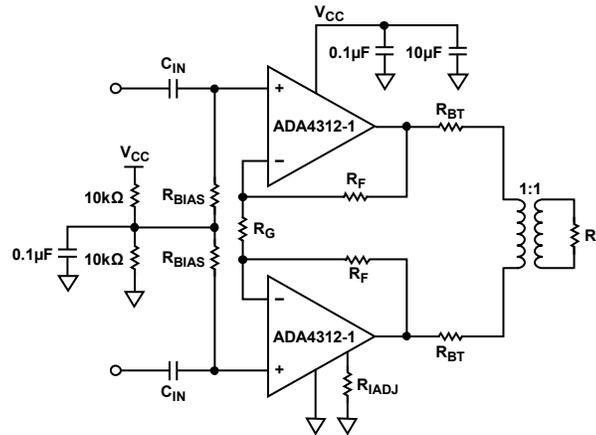
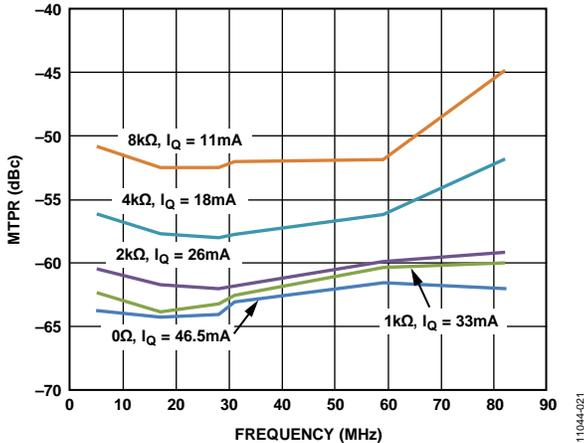

Figure 17. Typical G.hn Application Circuit
Figure 18. MTPR vs. R_{IADJ}
The feedback resistor value has a direct impact on the closed-loop bandwidth of the current feedback amplifiers used in the architecture of the ADA4312-1 differential line driver. Table 5 provides a guideline for the selection of feedback resistor values used in typical differential line driver circuits (refer to Figure 17).
The patented input stage of the core amplifiers is not conducive to operating either core amplifier independently. The ADA4312-1 input stage is designed to operate only in differential applications similar to the circuit shown in Figure 17.
In systems such as G.hn PLC modems, half-duplex or time-division duplex (TDD) systems require the line driver to be switched between transmit mode and high output impedance receive mode. The ADA4312-1 is equipped with a shutdown pin (SD, Pin 9) that stops the line driver from transmitting while switching the outputs to a high output impedance equivalent to 10 kΩ in parallel with 2R_F + R_G (see Figure 17). The shutdown (SD) pin is compatible with standard 3.3 V CMOS logic. If the SD pin is left floating, an internal pull-up resistor places the output in a disabled, high output impedance state. SD logic is referred to GND (Pin 4), which should be connected to 0 V.
In single-supply applications such as the one shown in Figure 17, it is necessary to establish a midsupply operating point (V_{MID}). To establish V_{MID}, use two 10 kΩ resistors to form a resistor divider from V_{CC} to ground and a 0.1 μF ceramic chip capacitor for decoupling. Place the V_{MID} decoupling capacitor and the R_{BIAS} resistors as close as possible to the ADA4312-1.
Note that there is a trade-off between the adjusted quiescent current and the linearity (or MTPR) of the transmitted signal. Multitone power ratio (MTPR) was monitored at 5 MHz, 17 MHz, 28 MHz, 31 MHz, 59 MHz, and 82 MHz. Figure 18 can be used to gauge the approximate degradation of MTPR vs. R_{IADJ} and quiescent current while transmitting the G.hn signal across a 40 Ω differential load in the circuit shown in Figure 17.